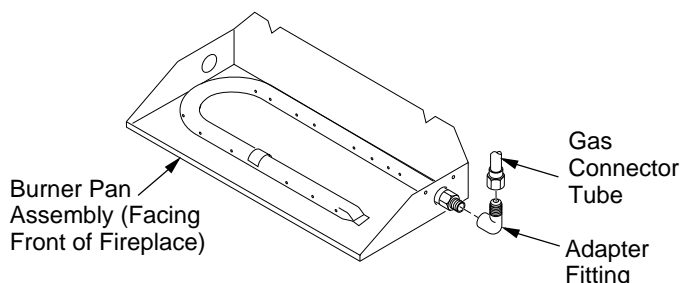

Figure 8 - Connecting Gas to Appliance
3. Install adapter fitting onto the burner inlet fitting using thread sealant on male threads of burner inlet fitting (see Figure 8). Adjust to most convenient position.